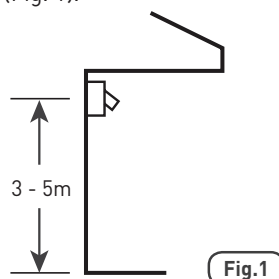

Fig.1
- Mount the floodlight onto solid brickwork, 3 - 5m above the ground (Fig. 1).